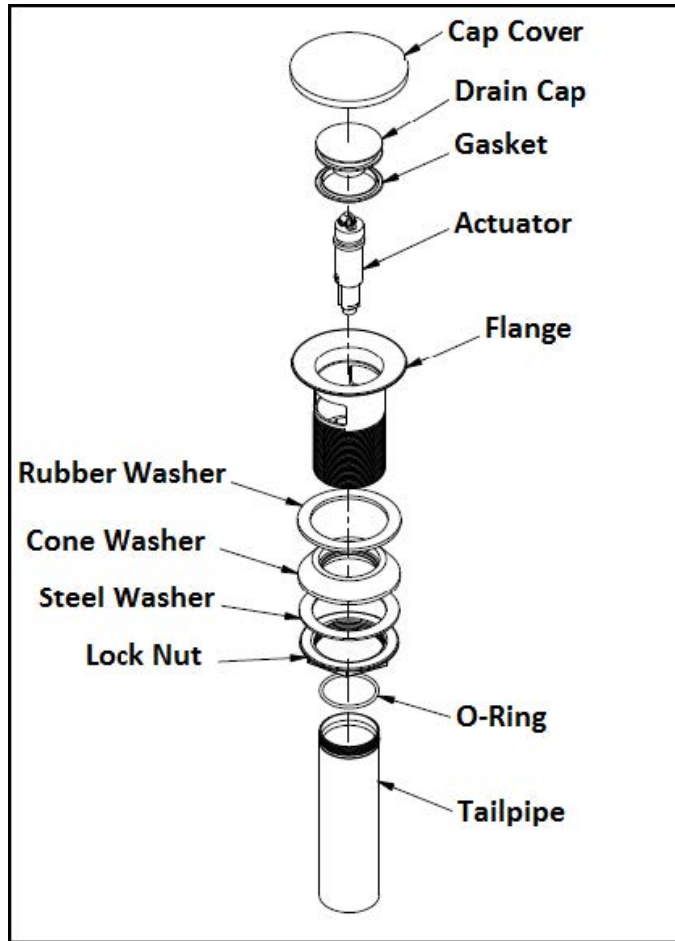

Figure 3
3. Drain assembly not included with I203-1. Remove **FLANGE, RUBBER WASHER, STEEL WASHER**, and discard drain **CAP COVER** from drain assembly. Place **RUBBER WASHER** into **FLANGE**. Then, place **FLANGE** through the sink hole (Clear silicone may be used in place of **RUBBER WASHER**). From underside of sink, install **CONE WASHER, STEEL WASHER**, and **LOCK NUT** into **FLANGE**. Thread **LOCK NUT** firmly. Thread **TAILPIPE** to **FLANGE** assembly and assemble **TAILPIPE** to existing PTrap. See Figure 3.